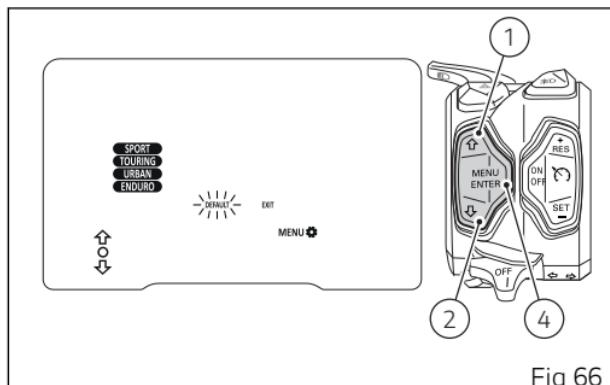

Fig 66
Select RIDING MODE option (Fig 66), by pressing button (1) or (2).
Press button (1) or (2), to select DEFAULT option (Fig 66) so it starts flashing.